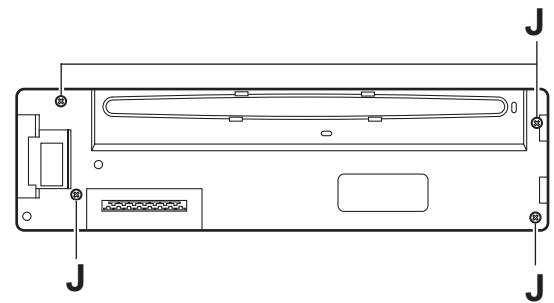

Fig.8
3.1.8 Removing the front board (See Figs.8 to 10)
- (1) Remove the four screws **J** on the back side of the front panel assembly. (See Fig.8.)